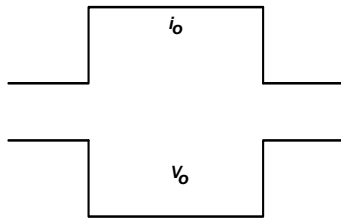
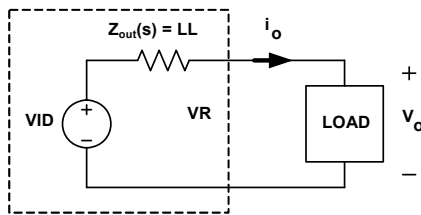

FIGURE 25. DESIRED LOAD TRANSIENT RESPONSE WAVEFORMS
FIGURE 31. VOLTAGE REGULATOR EQUIVALENT CIRCUIT
Assuming the compensator design is correct, Figure 25 shows the expected load transient response waveforms if C_N is correctly selected. When the load current I_{core} has a square change, the output voltage V_{core} also has a square response.
Figure 25 on page 29 shows the desired load transient response waveforms. Figure 31 shows the equivalent circuit of a voltage regulator (VR) with the droop function. A VR is equivalent to a voltage source (= VID) and output impedance $Z_{\text{out}}(s)$. If $Z_{\text{out}}(s)$ is equal to the load line slope LL, i.e., a constant output impedance, then in the entire frequency range, V_o will have a square response when I_o has a square change.